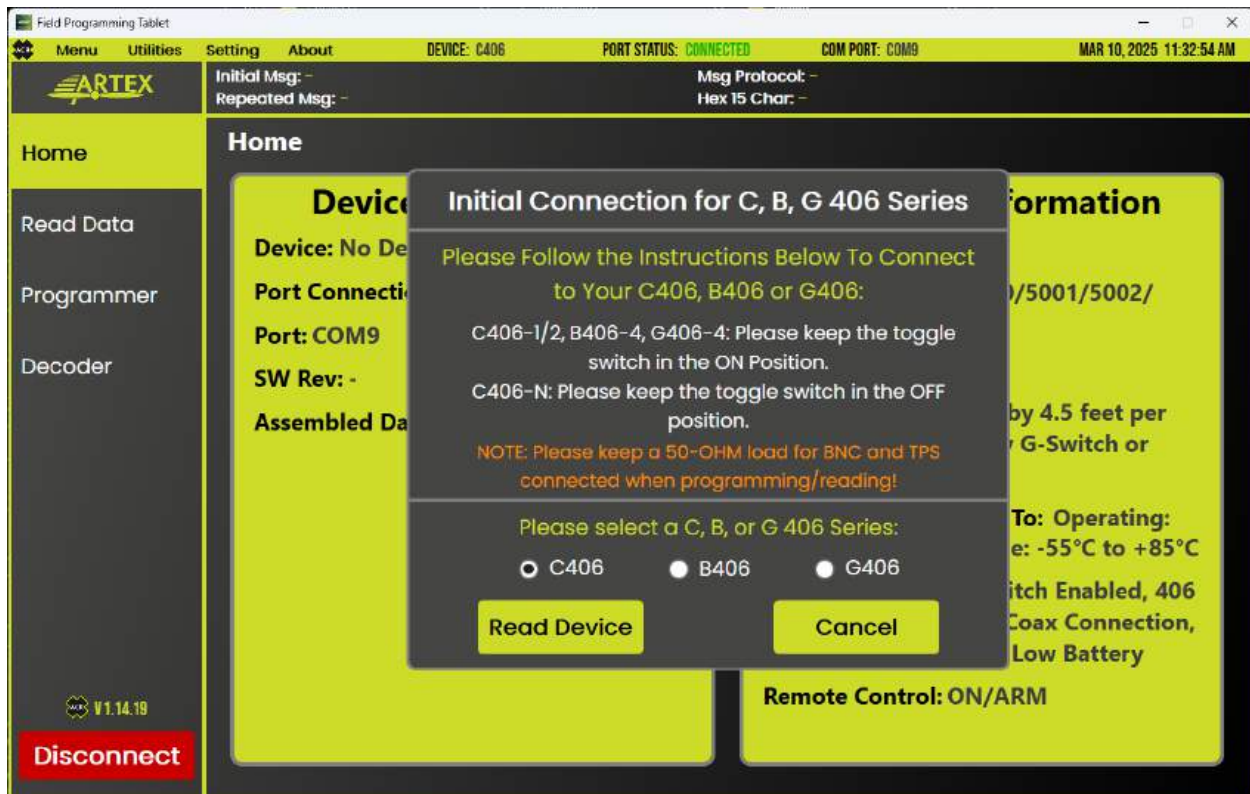

Figure 8 - FPT C,B,G-406 Init Connection Popup
3. For **C,B,G 406 Series ELTs**, a popup window displays (Figure 8) instructions on how to connect to these different ELTs.